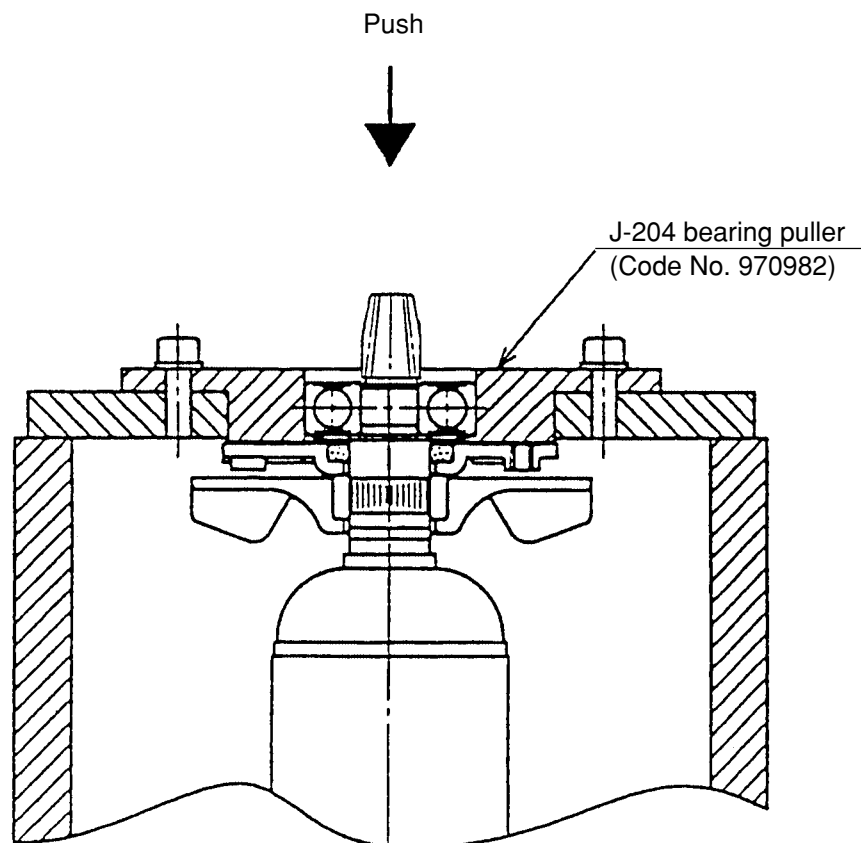

Fig. 3
- (1) Loosen the two Brush Caps **[45]**, and take out the Carbon Brushes **[46]**.
- (2) Remove the four Tapping Screws (W/Flange) D5 x 30 **[2]**. The Armature Ass'y **[13]** can then be taken out simultaneously with the Gear Cover Ass'y **[5]**, Packing Gland **[30]** and related parts.
- (3) Remove the four Seal Lock Screws (W/Sp. Washer) M5 x 14 (Black) **[31]**, and remove the Packing Gland **[30]**, and related parts.
- (4) After removing the three Seal Lock Screws (W/Sp. Washer) M4 x 10 **[1]**, the Armature Ass'y **[13]** can be extracted together with the Bearing Cover (B) **[12]**, and related parts.
- (5) Carefully wrap the Armature Ass'y **[13]** with a soft, clean rag to protect it from being damaged, and clamp it securely in a vise. Remove the Retaining Ring for D8 Shaft.
- (6) As illustrated in Fig. 3, the Ball Bearing 6200DDCMPS2L **[9]** can be removed from the Armature Ass'y **[13]** by utilizing a J-204 Bearing Puller (special repair tool, Code No. 970982).